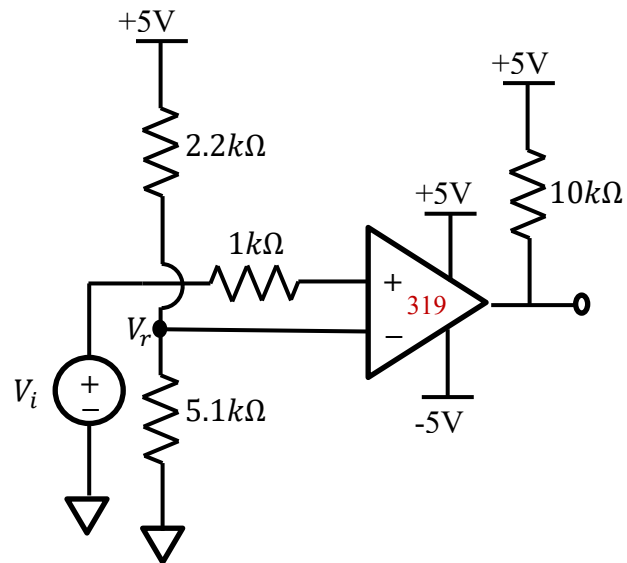

Figure 4.7 – Voltage comparator.
B. For the circuit in Figure 4.7, calculate V_r . Calculate the threshold input voltage, V_i , that will change the output of the comparator from high to low. Show all calculations and explain your work.
C. Model the circuit in Figure 4.7 in SPICE for $V_i = 2\text{V}$ and $V_i = 4\text{V}$. Print out a copy of both schematics with voltages displayed to hand in. Your SPICE simulation and calculations should match.